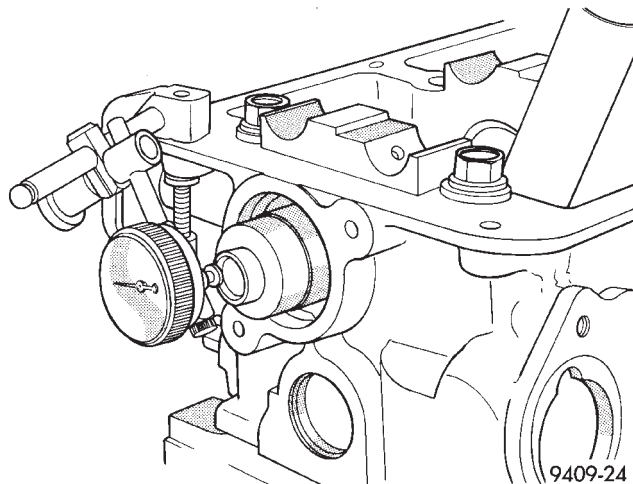

Fig. 41 Camshaft End Play
(2) Using a suitable tool, move camshaft as far rearward as it will go.
(3) Zero dial indicator (Fig. 41).
(4) Move camshaft as far forward as it will go.
(5) End play travel: 0.1 - 0.2 mm (0.004 - 0.008 inch.). Max. Travel: 0.4 mm (0.016 in.)